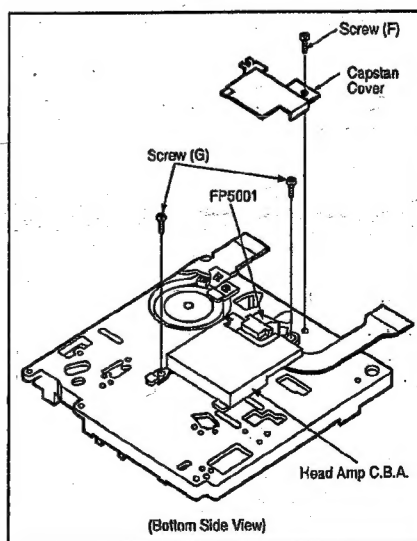

Fig. M6
| 4. Head Amp C.B.A. | Fig. M6 | Unscrew screw (F) and remove the Capstan Cover.